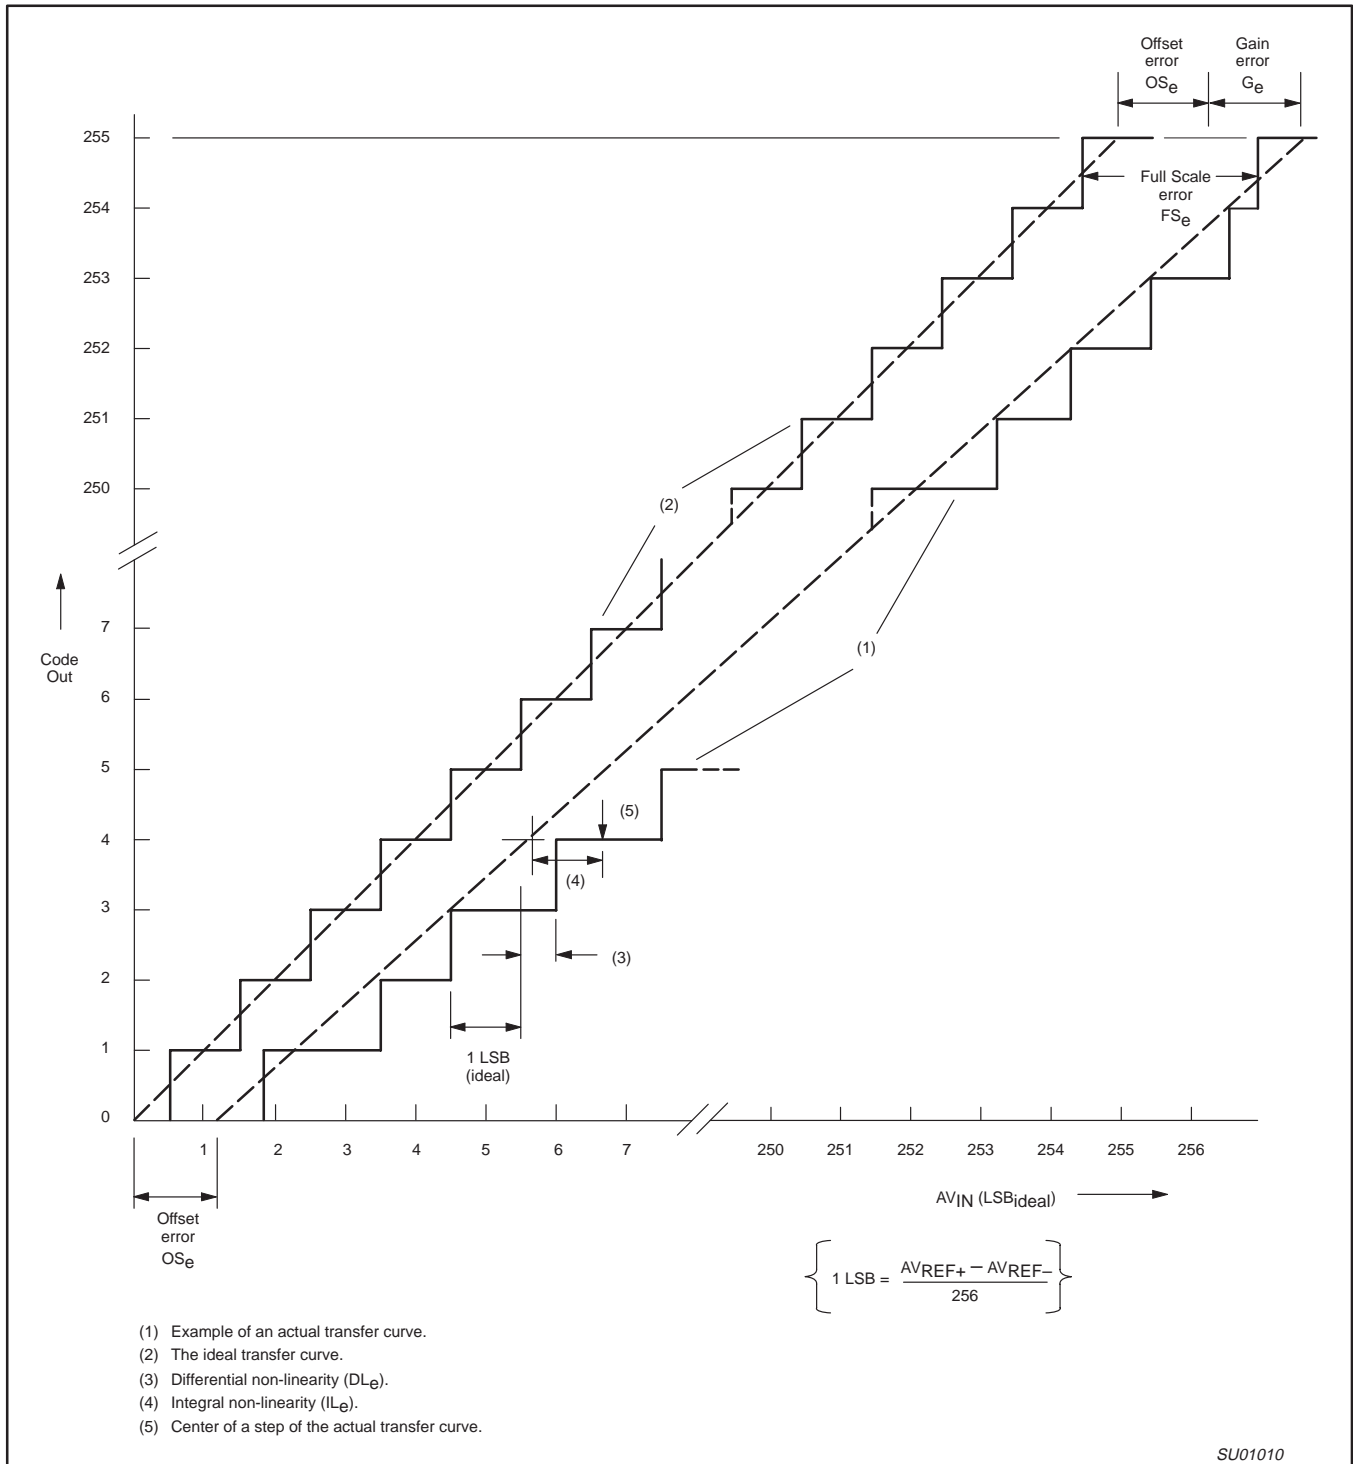

Figure 25. ADC Conversion Characteristic
- The differential non-linearity (DLe) is the difference between the actual step width and the ideal step width. See Figure 25.
- The integral non-linearity (ILe) is the peak difference between the center of the steps of the actual and the ideal transfer curve after appropriate adjustment of gain and offset errors. See Figure 25.
- The offset error (OSe) is the absolute difference between the straight line which fits the actual transfer curve (after removing gain error), and the straight line which fits the ideal transfer curve. See Figure 25.
- The gain error (Ge) is the relative difference in percent between the straight line fitting the actual transfer curve (after removing offset error), and the straight line which fits the ideal transfer curve. Gain error is constant at every point on the transfer curve. See Figure 25.